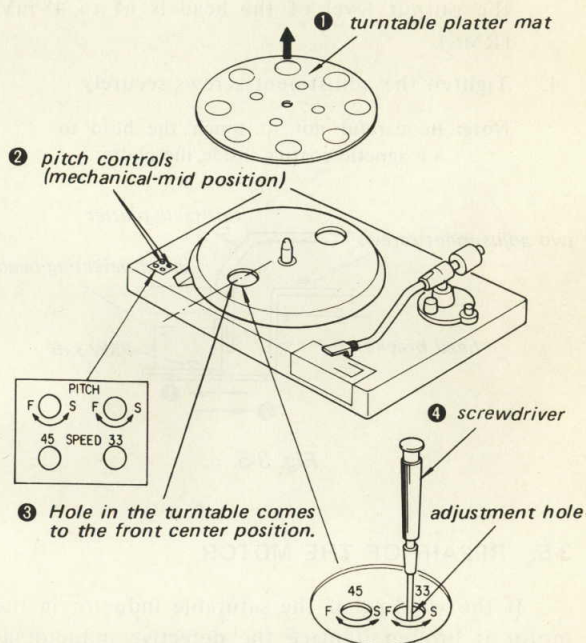

Fig. 3-3.
2. Turn the turntable slowly so that the hole comes to the front center position. Insert a small screwdriver through the adjustment hole and turn the adjustment screw as shown in Fig. 3-3.